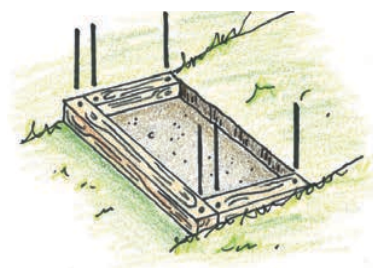

Figure 4
as long as the step width and two timbers as long as the step depth for the side timbers (remember that each step should extend six inches past the next step's riser.) Drill $\frac{1}{2}$ -inch diameter holes approximately six inches from the ends of each timber (Figure 4).
STEP 5 – Position timbers. Position the timbers in the step and remove or add soil as needed to level them (Figure 4).
STEP 6 – Anchor timbers. Drive the steel rebar through the drilled holes on the end of each timber and into the ground. Make sure the rebar is level with the timber surface, or slightly recessed, since the edges may be sharp (Figure 4).
STEP 7 – Dig and level inside step. Shovel out the soil inside the step to create a surface roughly level with the bottom of the timbers. Additional soil can be removed to provide more area for infiltration if desired. Make sure to dispose of excavated soil in a place where it will not wash away (Figure 4).